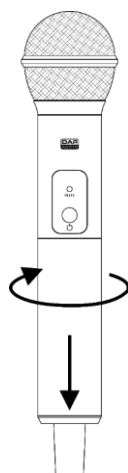

Fig. 14
- 01) Set the **power switch (12)** to ON position, to turn the PSS on.
- 02) Press and hold down the **power/mute switch (40)** for 3 seconds to turn the microphone on. The **LED status indicator (39)** will light green.
- 03) Press the **UP/DOWN buttons (05/07)** to choose one of the 100 channels (see page 19 for the frequency range chart). Alternatively, press and hold down the **UP button (05)** for 6 seconds, for quick channel search. The **display (09)** will show:
- 04) Press and hold down the **UP button (05)** for 3 seconds. The currently chosen channel's number will start blinking.
- 05) Remove the battery cover (Fig. 14). **Otherwise it will not be possible to pair the devices.**